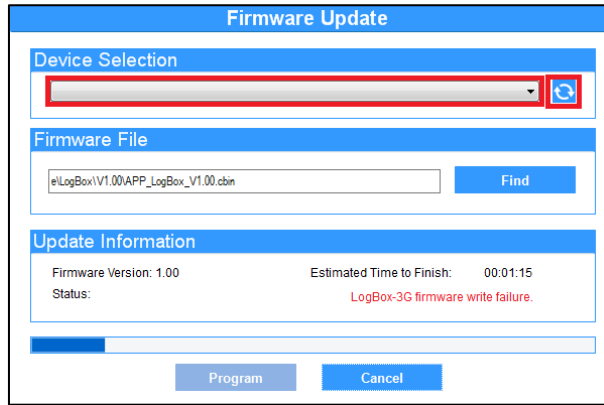

Fig. 49 – Firmware failure
- d. If **NXperience** has been closed and/or it is no longer possible to find the device on the update screen, as shown in **Fig. 49**, it is necessary to close the **NXperience**, turn off the **LogBox-3G** and reconnect the device to the USB interface for a new attempt.